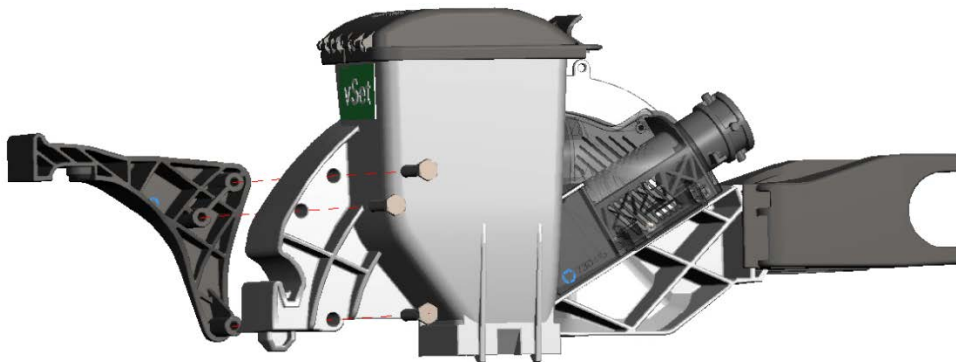

Figure 4 – SpeedTube Rear Bracket Installation
- d) Position the rear bracket with the three mounting holes on the mini hopper. Install the rear bracket reusing the three (3) M8 X 45 hex head screws. Refer to figure 4.